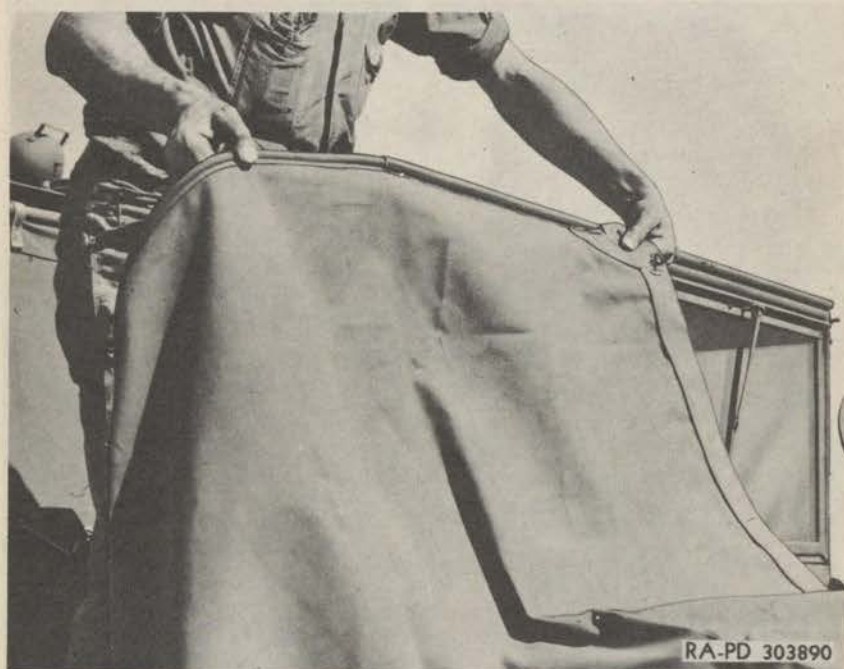

Figure 202—Installing Cab Top Tarpaulin
move the top tarpaulin forward as far as possible and drape it over the engine hood. Unfasten the two strap and loop fasteners holding the tarpaulin to the top edge of the windshield, then grasp the tarpaulin along one edge and pull it out from the cab to disengage the bead on the front end of the tarpaulin from the slotted tube on top of the windshield (fig. 202).
(3) **INSTALL TOP TARPAULIN.** Drape the top tarpaulin upside-down on top of the engine hood, with the bead on it facing towards the windshield. Then insert one end of the tarpaulin bead through the slotted tube on top of the windshield and pull the canvas through until it is centered on the windshield (fig. 202). Grasp the rear edge of the tarpaulin and swing it back over the cab, drape it over the cab support tube, and hook the loop in the middle of the tarpaulin rope to the hook on back of the rear cab panel. Connect the two strap and loop fasteners holding the front corners of the tarpaulin to the top of the wind-